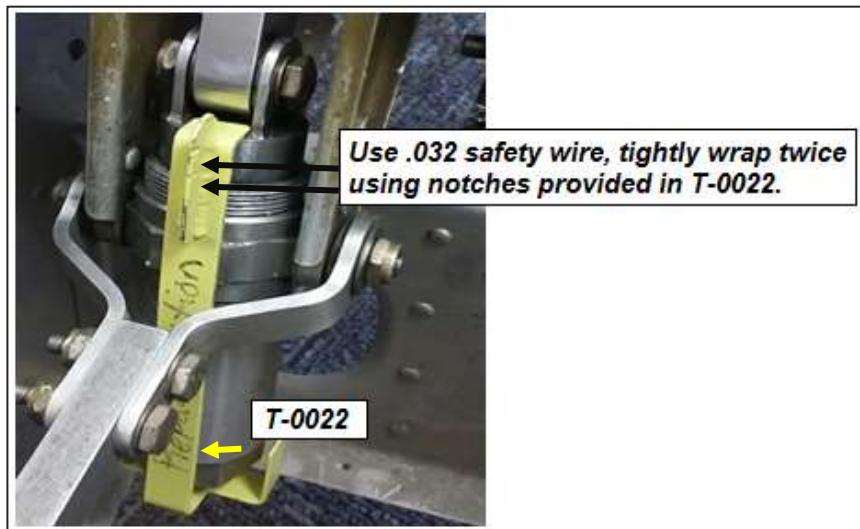

Figure 1. Spring Capsule Caged with T-0022
- 6.3 Cage the collective spring capsule (Figure 1 and para. 12-5, step (2) and (3), MM).